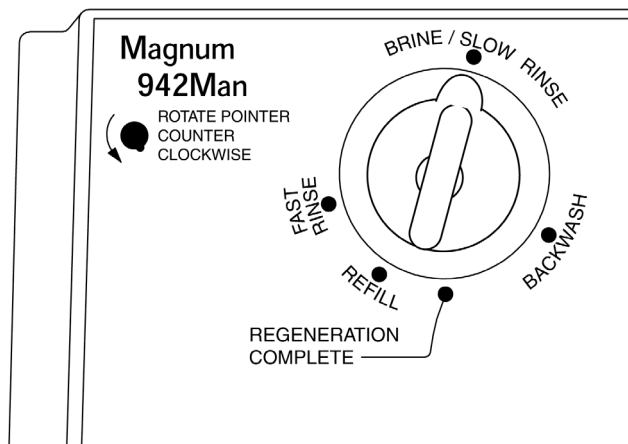

Figure 5.2
3. When the backwash is complete, move the indicator knob **COUNTERCLOCKWISE** to the center of the **Brine/Slow Rinse** position (Figure 5.2). See the "Suggested Brine Draw/Slow Rinse Table" to determine the correct draw/rinse time. Please note that the tables are given at three salting levels and four pressures. The indicator knob should remain in the **Brine/Slow Rinse** position for the time* indicated in the table.